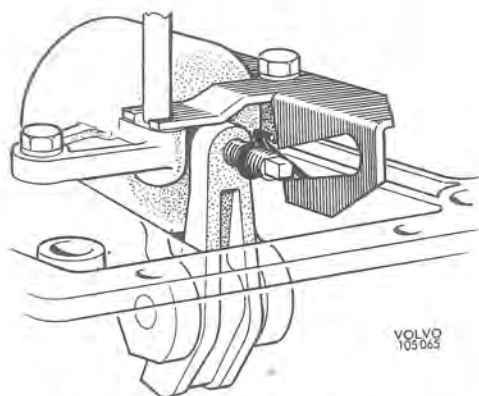

Fig. 4-118. Self-adjusting spring bolt cam
27. Adjust the location of the spring on the adjusting screw. It should be 1—2 threads from the lever. Remove the torque wrench and spacer block. Fit the cam. The long end of the spring sticks into the cam, see Fig. 4-118.